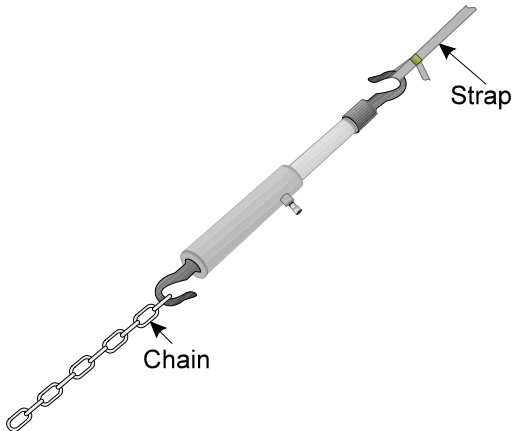

Figure 3 — Connecting Chain and Strap
Step 2: Hook one end of the Pull-Back Ram to the object to be moved and the other end to a stable base as shown in Figure 3. A chain or strap may be used on either side to provide a hooking surface. Make sure the chain or strap is rated to support the pulling weight.